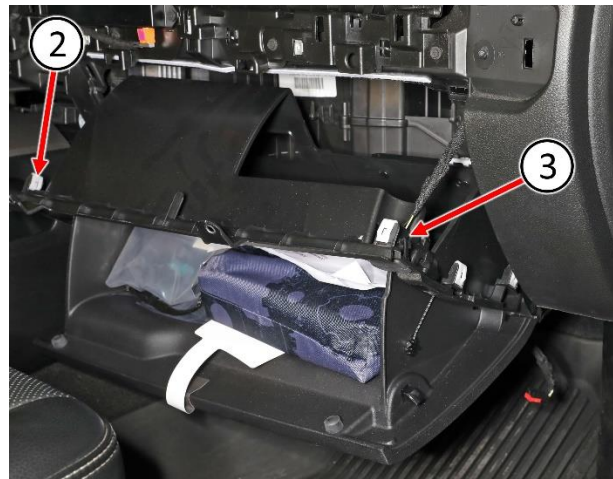

Figure 9 – Glove Box
16. Carefully release the glove box retaining clips (2) then disconnect the wire harness connector (3) (Figure 9).
17. Remove the glove box from the instrument panel (Figure 9).
44. Connect the wire harness connector (3) while positioning the glove box to the instrument panel, fully seating retaining clips (2) (Figure 9).